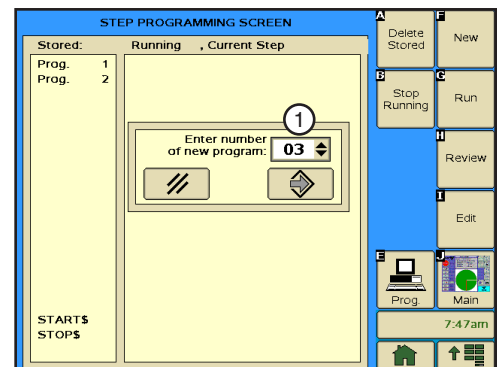

Figure 143-1 1. New Program Number Field
1. Push **Prog.** and **Step Prog.** to view the Step Program screen. Refer to Figure 143-1.